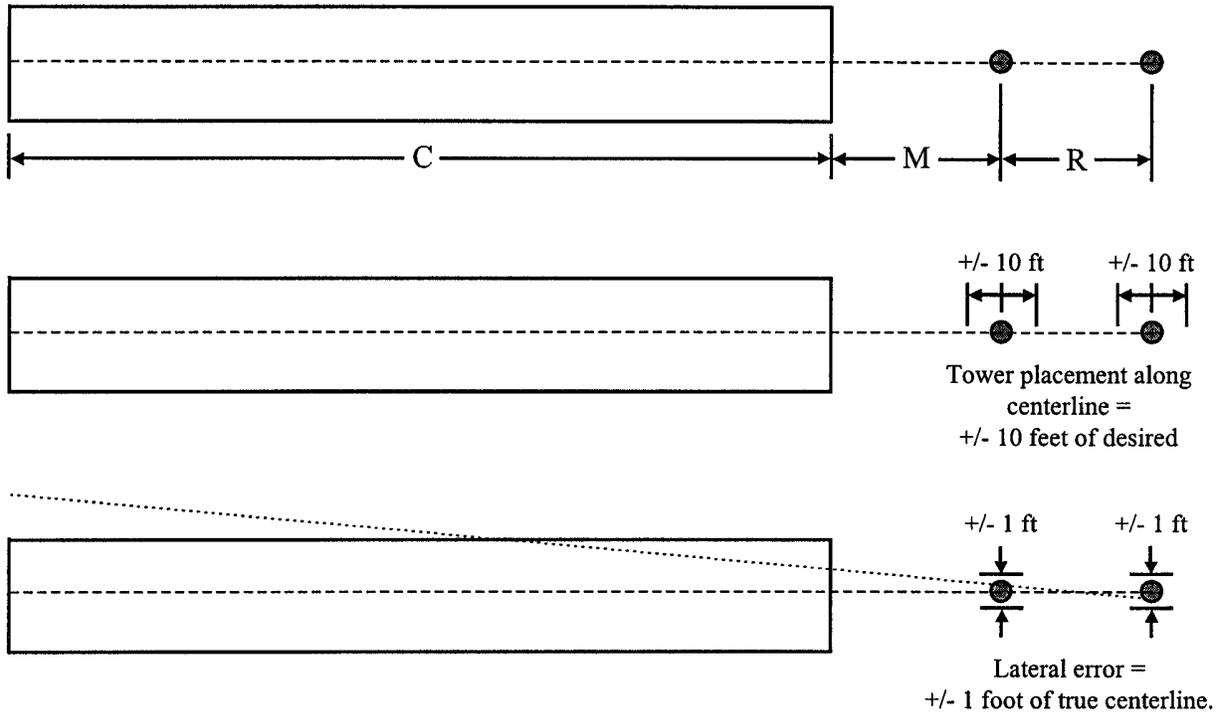

Figure 5-1. Tower Placement.
- B. Tower Placement. Placement of the range towers determines the range centerline. Tower placement along the centerline shall be within 10 feet of the desired position, as shown in Figure 5-1. The lateral error caused by placement of the towers on either side of the true centerline, shall be limited to one foot. See Figure 5-1.